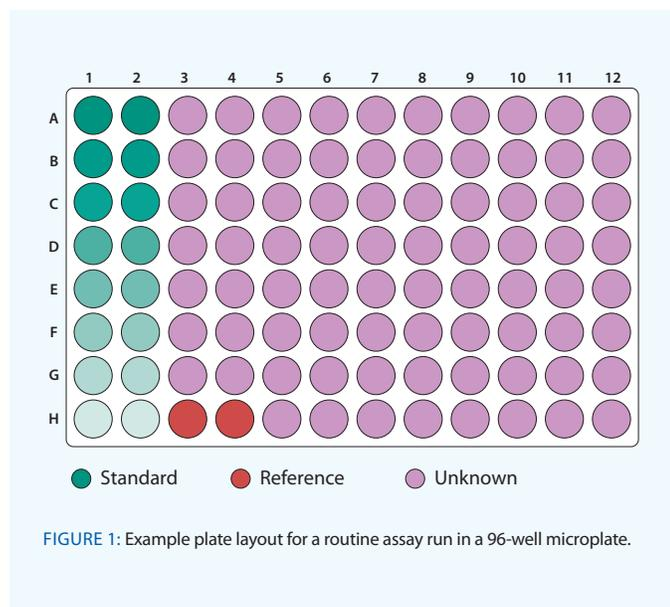

FIGURE 1: Example plate layout for a routine assay run in a 96-well microplate.
- 3 Transfer triplicates of the standards and the unknowns to a sample plate. It is recommended to organize samples in columns, from A–H. Fill at least one well with blank diluted matrix for reference subtraction during data analysis. An example plate map is shown in Figure 1.
- 2 Pipette standards, controls and samples into a black polypropylene microplate (see Figure 1 for an example plate layout).
- 5 Set up a Basic Quantitation assay (an example plate map is shown in Figure 1). For details on how to set up an assay see the Octet Data Acquisition User Guide.